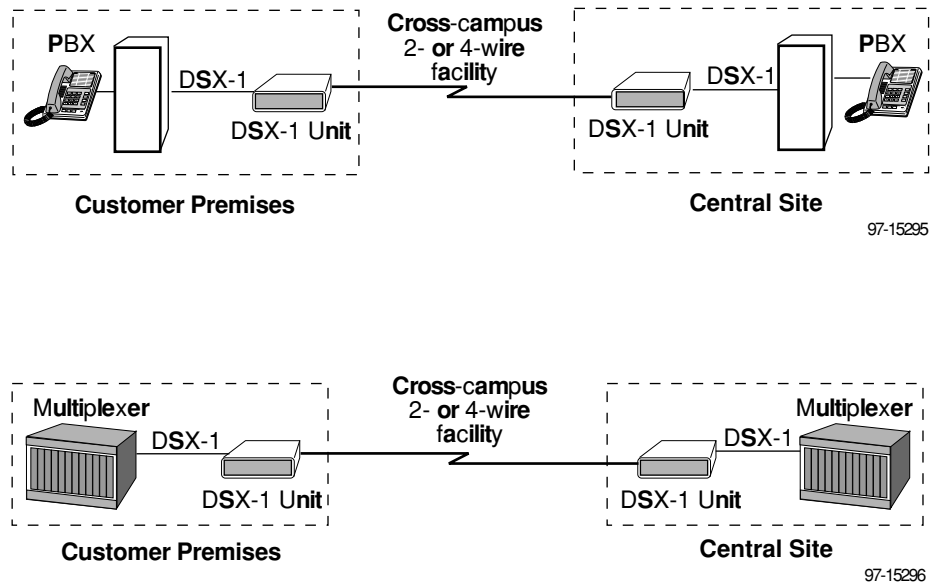

Figure 1-1. Campus Network Applications
Figure 1-1 shows two typical campus applications where remote routers or multiplexers are interconnected across a campus using two HotWire Model 7924 standalone units. In each pair, one unit is configured as a central site unit or central office (CO) and the other is the customer premises (remote) unit (CP).
Each HotWire Model 7924 standalone unit is configured at the factory to operate at the CP side of an T1 HDSL connection. However, you can easily reconfigure a unit for use at the CO end, as would be necessary for the configurations in Figure 1-1. (Conversely, HotWire Model 7924 nest cards are preconfigured for CO operation.)